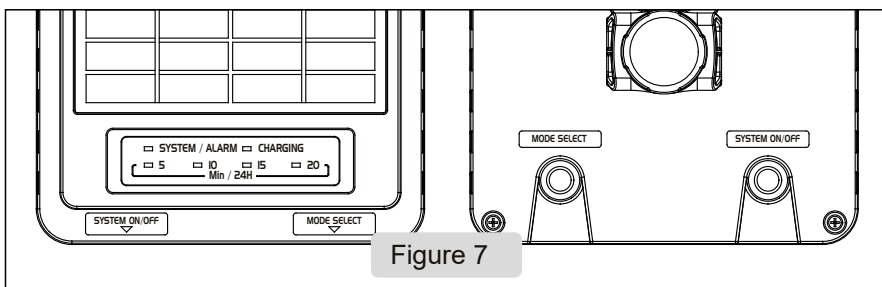

Figure 7
- 1) Turn on the irrigator unit by the **SYSTEM ON/OFF** switch on the back of the irrigator unit and the **SYSTEM / ALARM** indicator on the panel will light as shown in **Figure 7**.